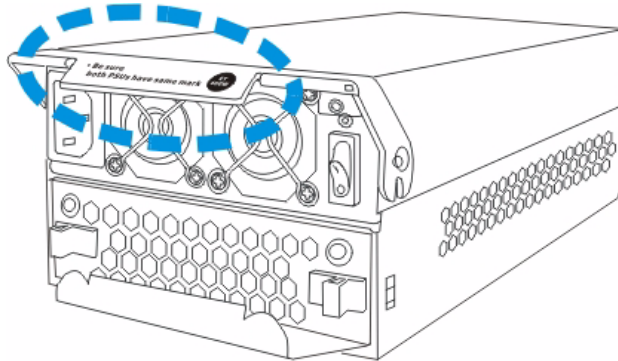

Fig. 6.10 Label on the PSU Handle
- Two (2) redundant PSU modules: The RAID subsystem is preinstalled with two (2) 460W, fully redundant, hot-swappable PSU modules. These modules are located at the rear of the subsystem.
- PSU printing mark: Before you insert a new PSU, be sure that it has the same printing mark on its handle as that shown on the handle of a remaining PSU. Double-check to avoid mixing a PSU of previous series. (See *Figure 6.10*)